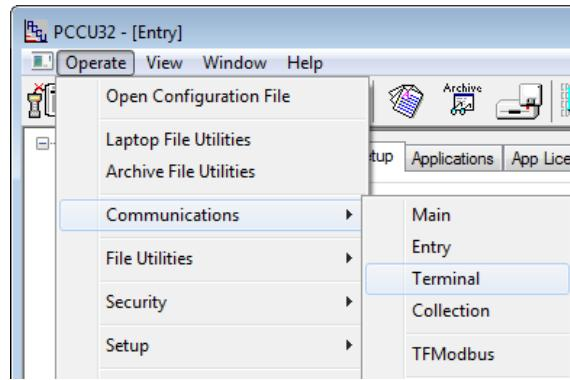
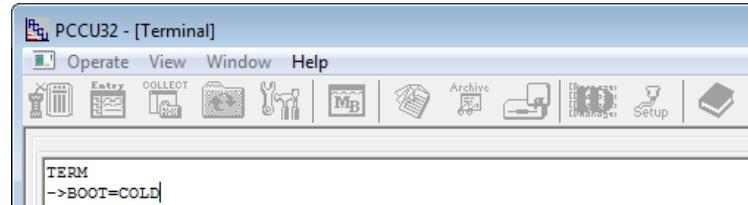

Figure 81: Terminal menu option
Figure 82: Terminal screen – cold boot
3. Click **Operate** in the menu bar and select the options **Communications** then **Terminal** (Figure 81). The Terminal screen displays (Figure 82).